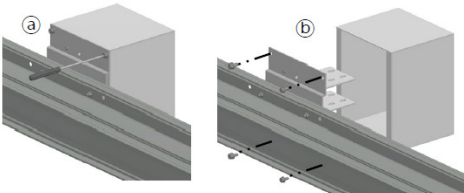

Figure 34. Busway Pre-installation
4. Loosen the bolts of the bolt-on protection box and remove the bolt-on protection box at the top and check for internal cleanliness and do not remove the flange at the bottom. (Figure 34, a, b)